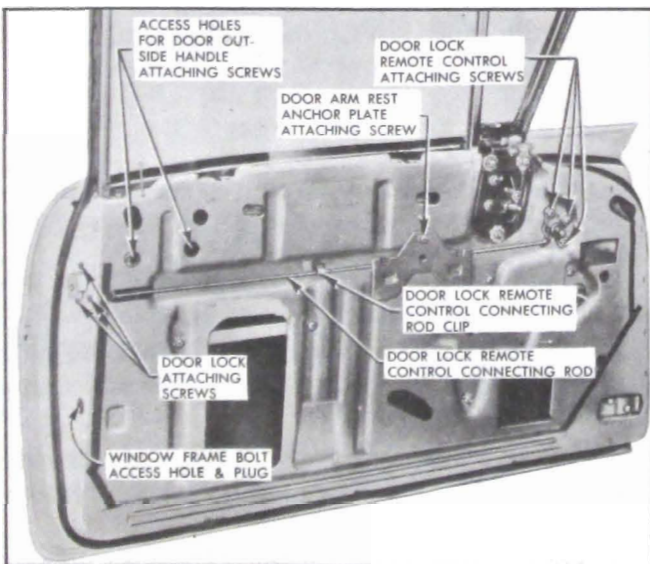
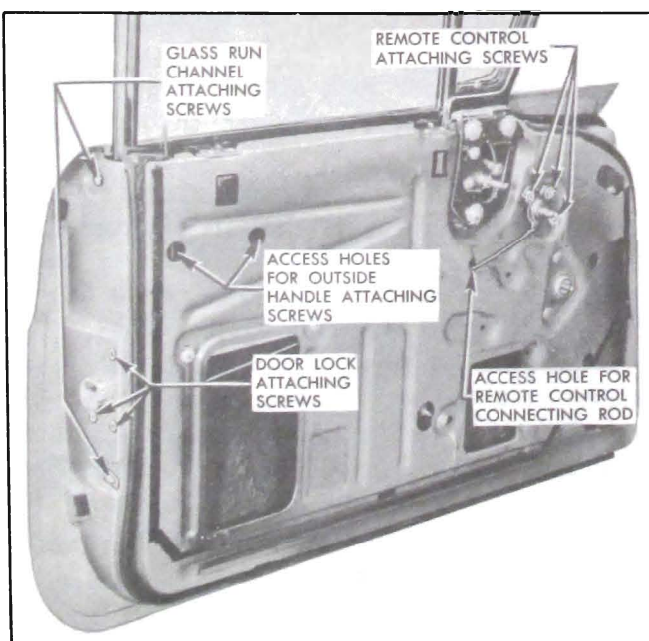

Figure 13-42—Door Lock Removal—Models 41-48
Figure 13-44—Front Door Lock—Rivieras and Convertibles
2. Remove window frame bolt access hole plug from lock pillar. See figure 13-42. Then remove window frame lower attaching bolt through access hole.
3. Remove glass run channel attaching screws on face of lock pillar, Figure 13-44 and remove channel from door. On four door Rivieras lower glass run channel from behind window frame extension to remove from door.
(a) Remove door arm rest anchor plate attaching screws, see Figure 13-42, and remove anchor plates where present.
6. Remove door lock attaching screws, Figures 13-42 and 13-44 and remove door lock from door through large access hole.
3. Remove remote control attaching screws, Figures 13-42 and 13-44 and remove remote control.
5. On 43, 63 and 41 bodies remove remote control connecting rod from door through access hole, shown in Figure 13-44.
2. Loosen remote control attaching screws, Figure 13-42. Adjust remote control in a rearward direction to just take out linkage clearances. Tighten screws to specified torque.
4. Through access holes for outside handle attaching screws, Figure 13-42 and Figure 13-44 remove handle attaching screws. Remove outside handle and with attached connecting rod or rods from door. Remove connecting rod or rods with anti-rattle clips from handle assembly.